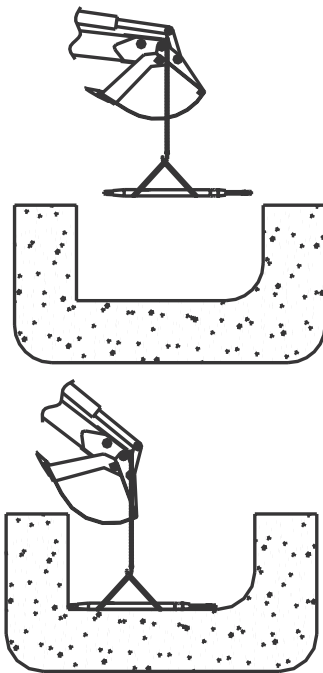

Figure 6-1. Lifting the Hole-Hog
- Any unit over 88 pounds (40kg) cannot be lifted manually. Use slings on either end of the Hole-Hog as shown in Figure 6-1 to lift the Hole-Hog in and out of the trench.
- Lower the Hole-Hog into the entrance trench with slings, as shown in Figure 6-1., with the piercing tip just touching the wall to be pierced.